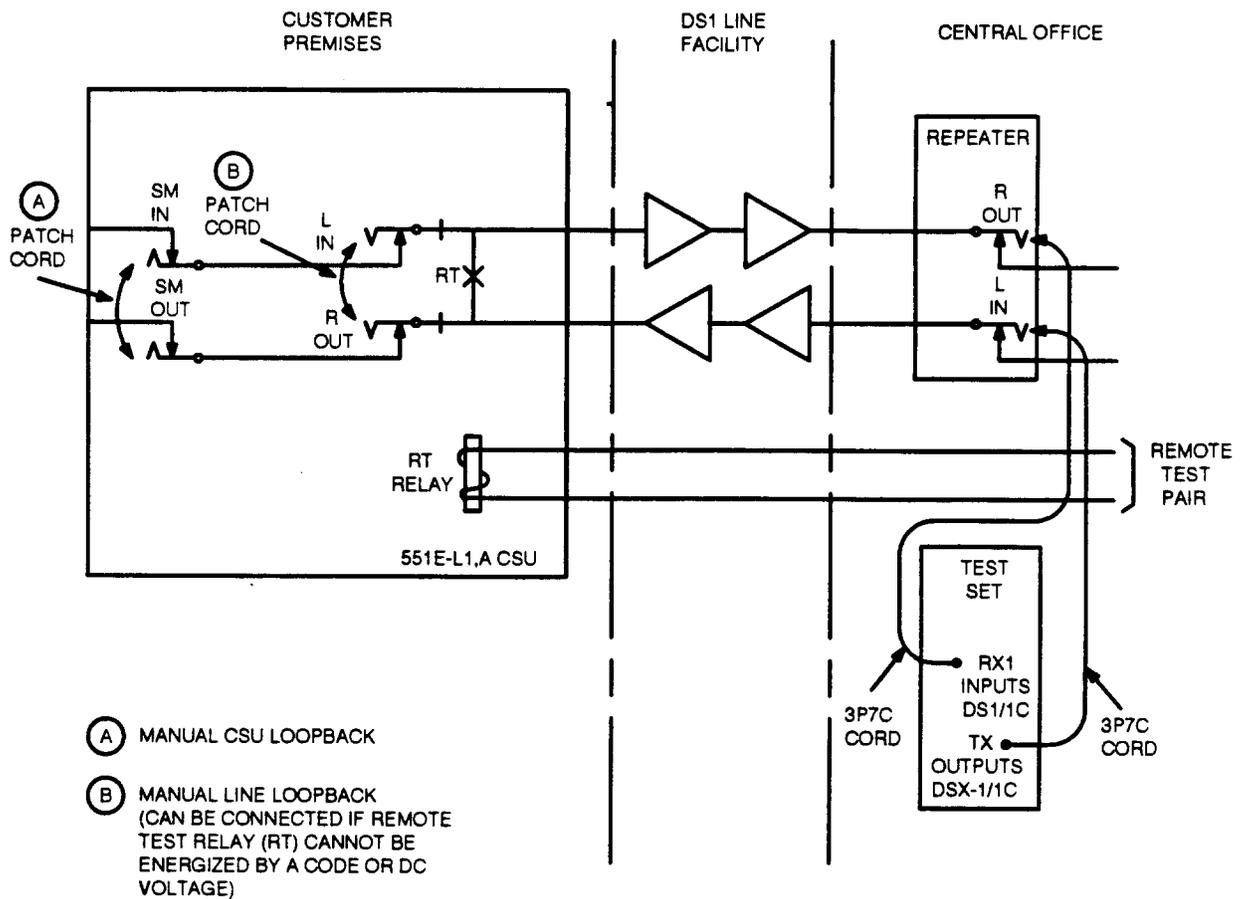

Figure 7. Line and CSU Loopback Tests Connections
4.05 The line loopback test is performed at the central office and at the customer premises CSU. Therefore, technicians are required at each location to perform some of the steps or verifications. The test checks the regenerator circuitry of the CSU and the DS1 line facility by remotely looping the transmit pair to the receive pair at the CSU. Once the loopback is made, test signals are transmitted to the CSU from the central office. The loopback can be performed by operating the remote test relay or by manually patching the **R OUT** jack to the **L IN** jack on the CSU (Figure 7). The manual loopback is also called regenerator loopback test. The remote test relay can be activated/deactivated by codes sent through the DS1 line facility or by DC voltage (5V DC @ 20 mA) applied to a dedicated pair of wires from the central office.
| 2 | Make test set connections as shown in Figure 7. |
| 4 | Perform the line loopback by one of the following methods: <ul style="list-style-type: none"> ▪ Activate the RT relay by applying a DC voltage to the remote test pair of wires (Figure 7). ▪ Connect a patch cord between R OUT and L IN jacks at the customer premises CSU to activate a manual line loopback (Figures 2 and 7). ▪ Send an inband loop-up code using the HP 3787B test set (Figure 8) by performing the following steps: <ol style="list-style-type: none"> (a) Power up the HP 3787B test set and allow from 12 to 15 seconds for the initialization and self-test processes to finish. The INDEX page is then displayed with the cursor positioned on Page 1 of Normal Operation. See the bottom portion of Figure 8. |
4.08 The CSU loopback test is a test of the CSU at the customer premises and the DS1 line facility. It is made by manually looping the transmit pair to the receive pair at the customer premises CSU and transmitting test signals from the central office. Although the test is performed at the central office, some of the steps or verifications are done at the customer premises CSU. Refer to Figure 7 for making the loopback connection.